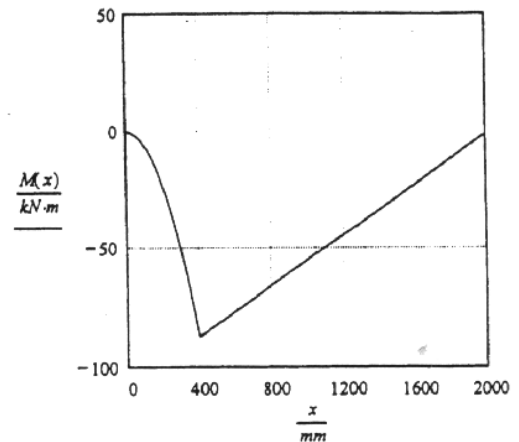

FIGURE 4-27D
12. From Figure 4-27D, the maximum internal shear and moment occur at $x = b$ and are